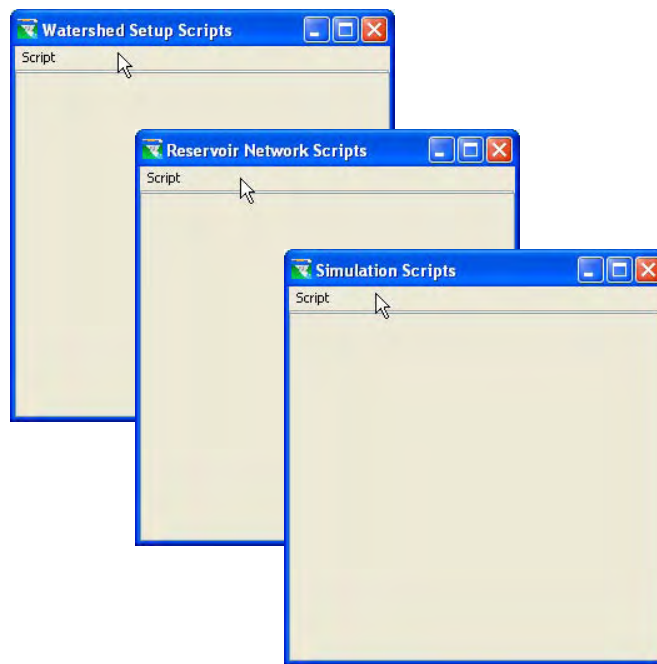

Figure 14.74 Scripts Windows for Each Module
2. The **Scripts** window will appear with the appropriate name in the Title Bar to reflect the applicable module (as shown by the three windows in Figure 14.74).